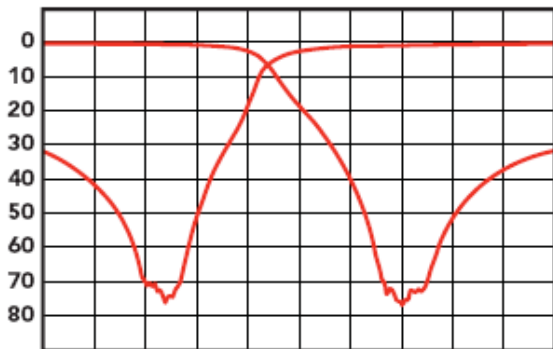

Figure 3 – Typical Reject Duplexer Response
- iii. A band reject duplexer is discouraged as it will always require the addition of a band pass filter for both the transmitter and the receiver. See figure 3.